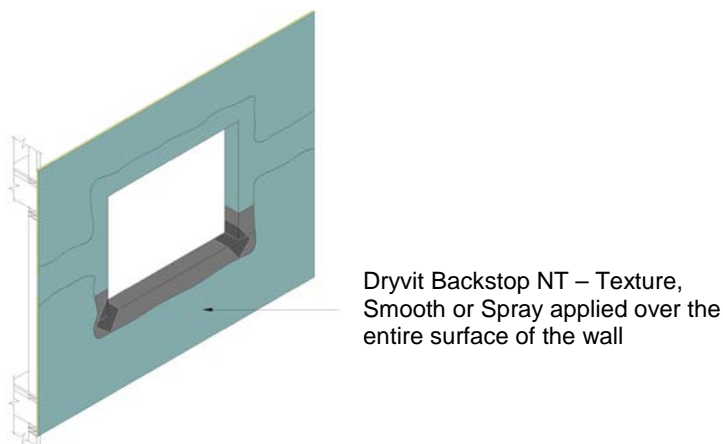

Figure 12
- Install the specified component (i.e. window, etc.) and associated flashings per manufacturer's directions and contract documents. Then apply Backstop NT – Texture or Smooth to the remainder of the wall surface as described in Section VI and lap over the previously installed material (do not lap over Flashing Tape if specified) around openings – Figure 12.